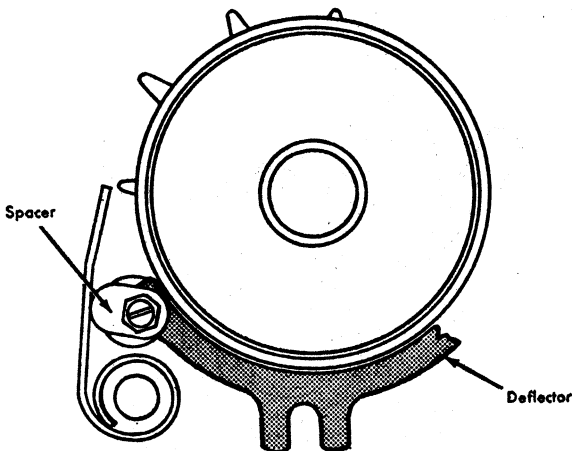

Figure 7. Front Paper Scale Adjustment
5. Adjust the front paper guide spacers so that the front paper scale just clears the platen in the latched down position. This is done so that the pins will not interfere with the scale when the platen is lowered (Figure 7). If the pins still contact the paper scale carefully file a slot in the scale at their point of contact.